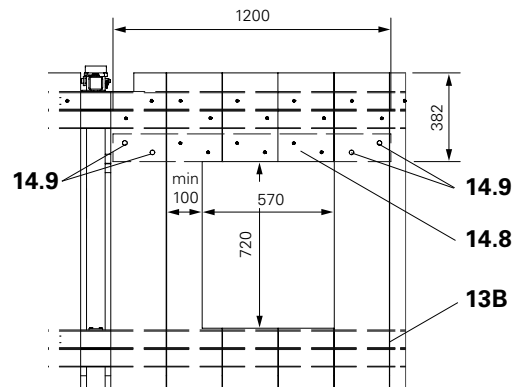
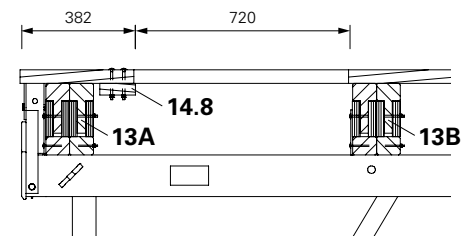

Fig. A2.03
Fig. A2.04
- The timber (14.8) is bolted 2x in each case to the lateral continuous planking. F.H. Round head bolts DIN 603 M8 x 100 (14.9) with washer ISO 7094 100 HV A8. (Fig. A2.03 and Fig. A2.04)